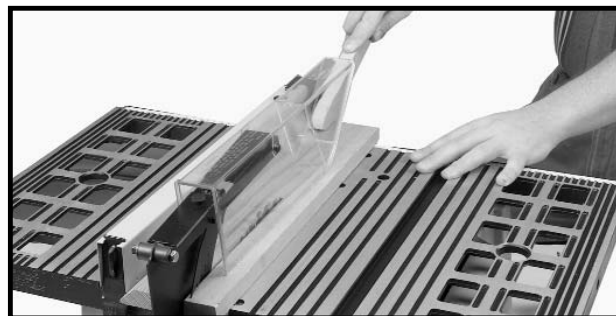

Fig. 44
3. If the ripped work is less than 6 inches wide, a push stick should always be used to complete the feed, as shown in Fig. 44. The push stick can easily be made from scrap material as explained in the section “CONSTRUCTING A PUSH STICK.”